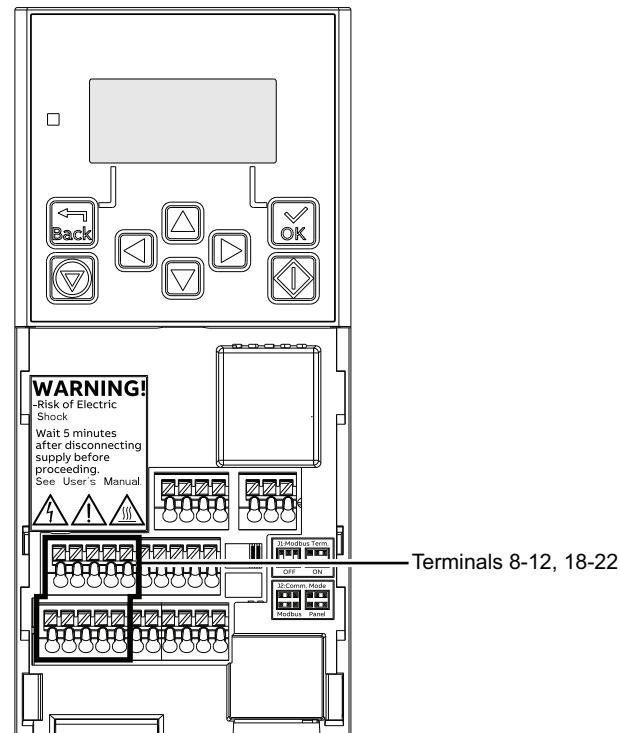

Fig. 58 – Digital Input Terminal Block Location on ACH180 VFD
3. Disconnect the DI1 input at Terminal 8 (see Fig. 58 for location of DI1).